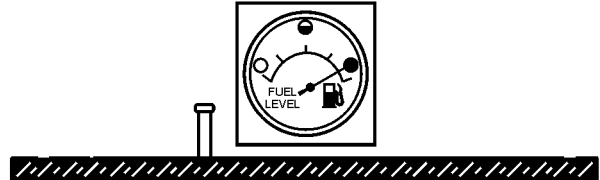

Figure 19. Full Fuel Tank
2. Remove fuel cap from filler neck and fill fuel tank (Figure 19).
3. **NEVER overfill fuel tank** — It is important to read the fuel gauge when filling trailer fuel tank. **DO NOT** wait for fuel to rise in filler neck (Figure 19).